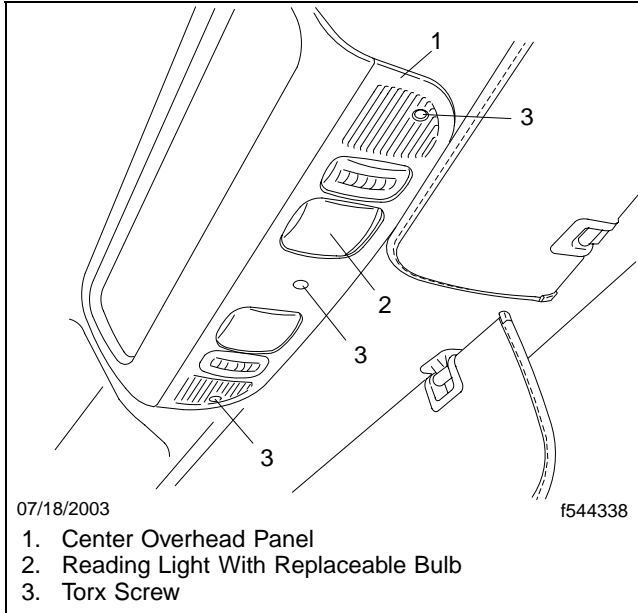

Fig. 2, Overhead Panel With Map/Reading Lights
1. Remove the three Torx® screws that hold the center overhead panel in place. See **Fig. 2**.